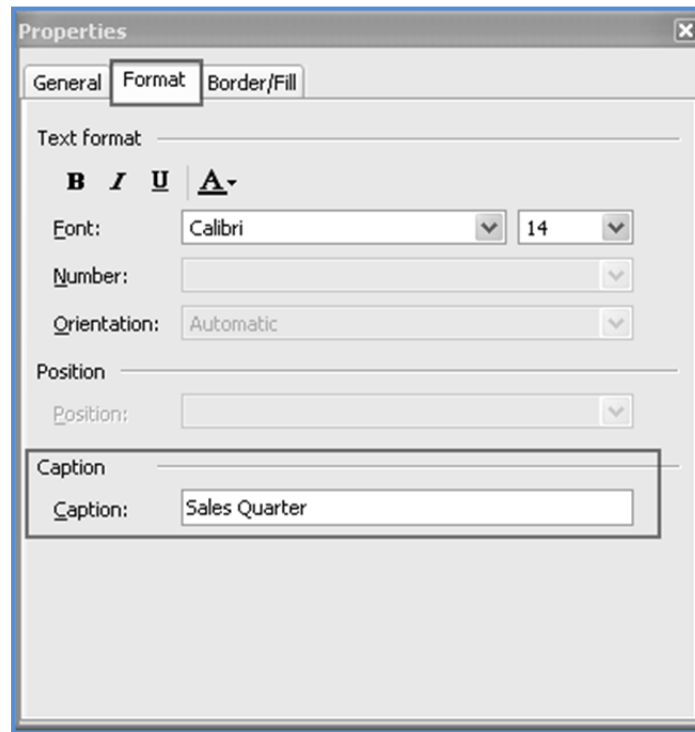

Fig. 1.2.70: Change caption of X-Axis
2. In the **Properties** window, go to the **Format** tab and change the **Caption** property to *Sales Quarter* as in Fig. 1.2.70.